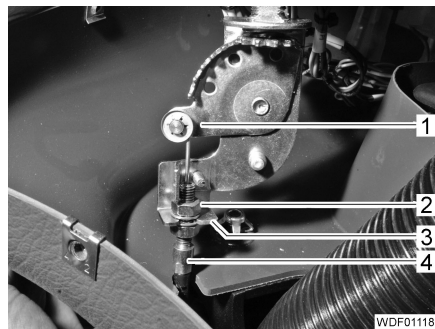

Fig. 451 Top fixing of Bowden cable
- Undo the nut (Fig. 451,2).
- Disconnect the Bowden cable (Fig. 451,4) from the operating part (Fig. 451,1).
- Remove the Bowden cable to the side from the holder (Fig. 451,3).
- Insert the Bowden cable (Fig. 451,4) from the side into the holder (Fig. 451,3).
- Connect the Bowden cable to the operating part (Fig. 451,1).
- Tighten the nut (Fig. 451,2) with washer.